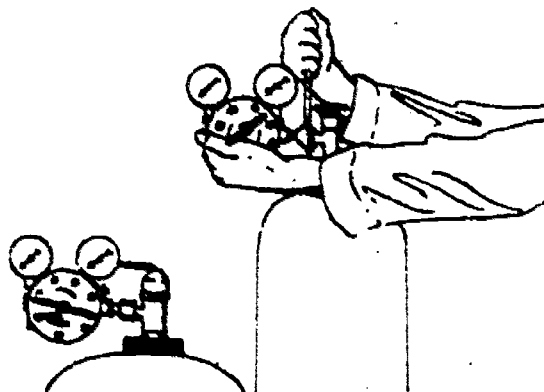

Figure 10. Attaching Regulators
5. Attach the oxygen and acetylene regulators to their respective cylinders (see figure 10).